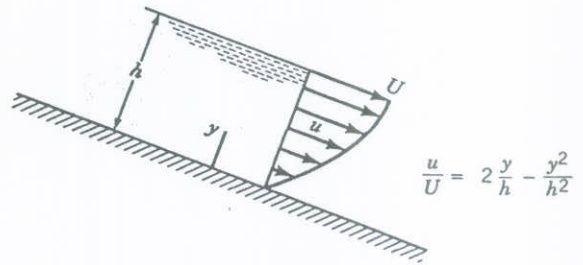

FIGURE P1.65
1.65 A layer of water flows down an inclined fixed surface with the velocity profile shown in Fig. P1.65. Determine the magnitude and direction of the shearing stress that the water exerts on the fixed surface for $U = 2 \text{ m/s}$ and $h = 0.1 \text{ m}$.